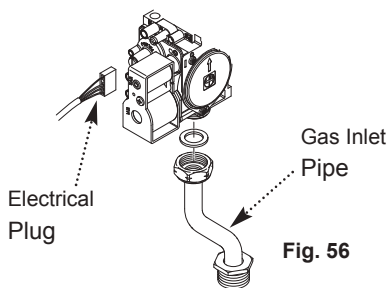

Fig. 56
4. Disconnect the plug from the gas valve and undo the nut on the gas inlet pipe at the base of the valve (Fig. 56).